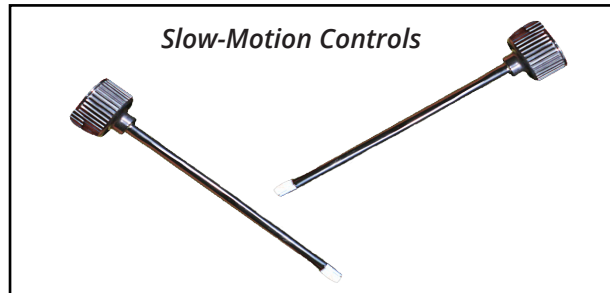

Figure 5.
8. Look through the telescope eyepiece to see if the Sun is in your field of view. Adjust as needed by slowly twisting the "RA Slow-Motion" (#5) and the "DEC Slow-Motion" (#6) controls (Figure 5.)